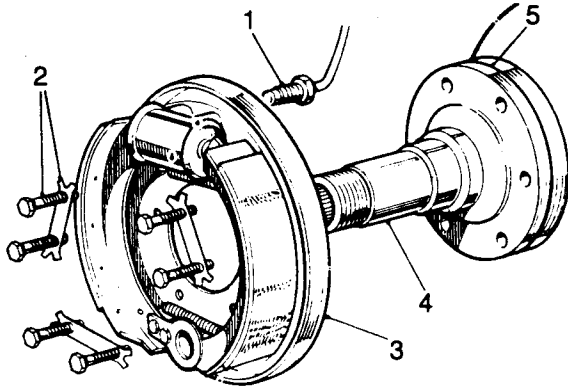

Fig J1.33
- (2) Refer to Fig J1.33. Release the brake pipe (1) from the retaining bracket at the upper swivel pin.
- (3) Remove the brake anchor plate and stub axle fixings (2).
- (4) Suspend aside the anchor plate assembly (3).
- (5) Withdraw the stub axle (4).
- (6) Withdraw the joint washer (5).